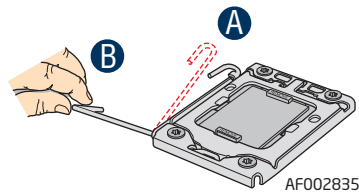

Figure 10. Lifting the Processor Socket Lever
9. Push the lever handle down and away from the socket to release it (see letter “A” in Figure 10).
10. Rotate the lever open all the way (see letter “B” in Figure 10).